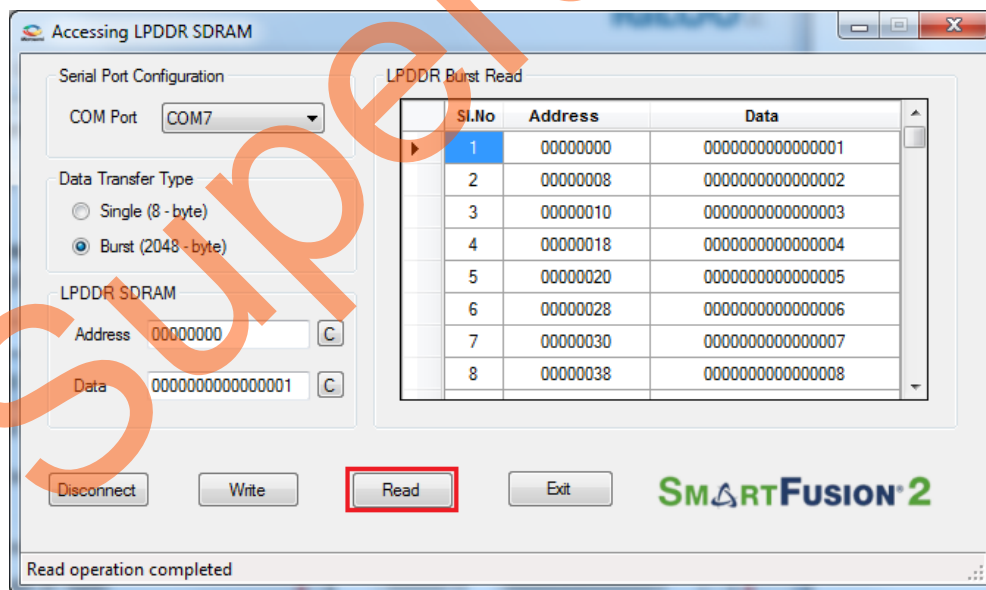

Figure 25 • Burst Read Operation
7. Click **Read**. All the 2048 bytes of data that was written to the LPDDR was read and the read data was displayed in the **LPDDR Burst Read** panel. Figure 25 shows the burst read data.